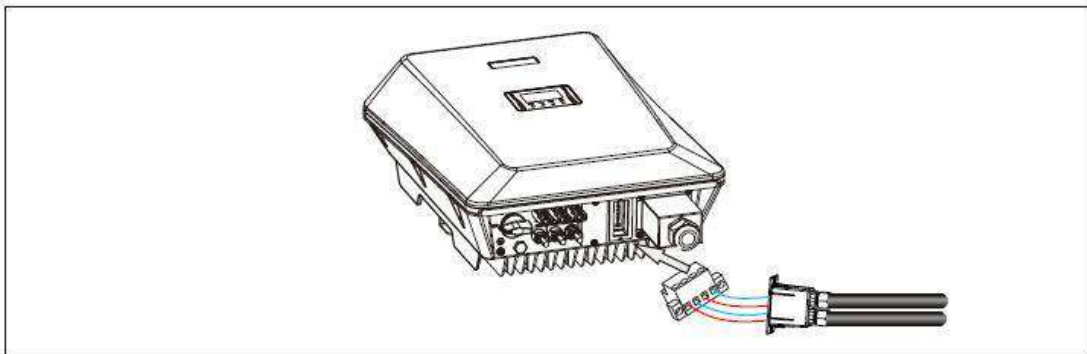

Figure 5.24 RS485 cable connections
Step 5 Connect RS485 male terminal with its female terminal, shown as Figure 5.24.